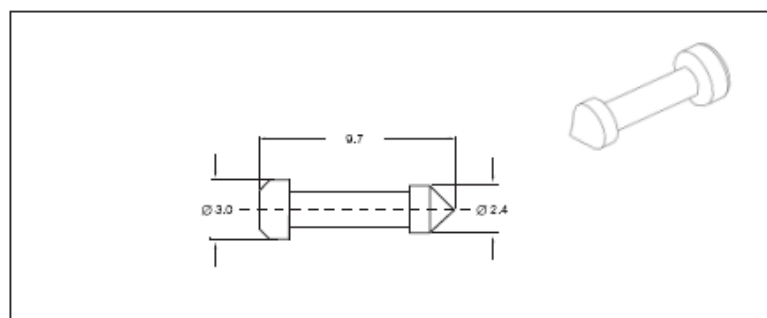

Figure 9 : Cavity pin for connector APC312
- The pressure compensation element (DAE) as well as the sealing may not be submersed in water. To ensure sealing, the complete harness shall be connected to the unit and unused pins shall be fitted with TYCO cavity plugs. See Figure 9.